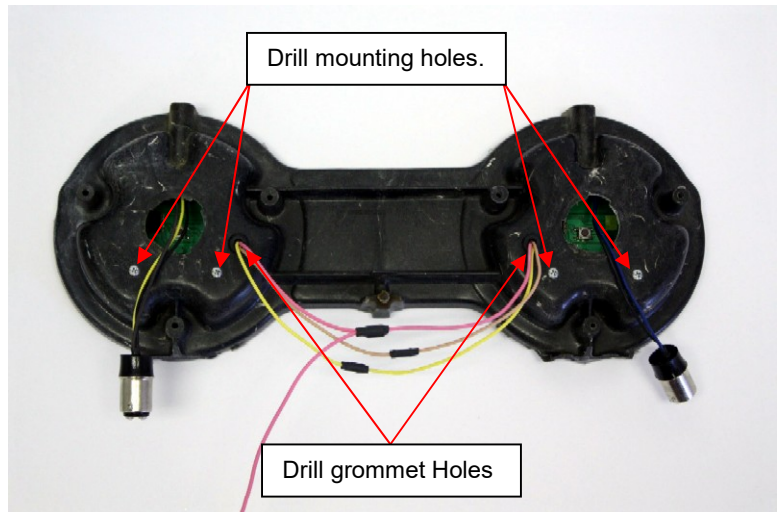

Figure 1
2. Drill 2 – 5/16" holes on the inner surface of the flat section of the bulb socket holes. (See Figure 1) The exact location of each hole is not critical. Then install provided rubber grommet into the drilled hole. One method to simplify installation is to pinch grommet, insert protruding edge into the hole, then use a small flat blade screwdriver to push/work the remaining edge through the hole.
- 3.4. Remove the LED panels and drill 2 – 5/32" diameter mounting holes into each housing assemblies (2 holes in each light chamber). Drill these holes at the center of the grease marks created in the previous step. (See Figure 1)